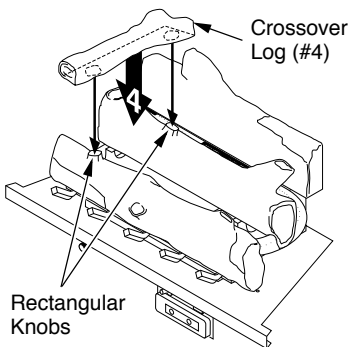

Figure 44 - Installing Crossover Log (#4)
4. Locate the notches in the bottom of the crossover log (#4). Place the crossover log on top of the middle log and front log. Make sure the notches of the crossover log lines up with rectangular knobs on top of the middle and front logs (see Figure 44, page 24).